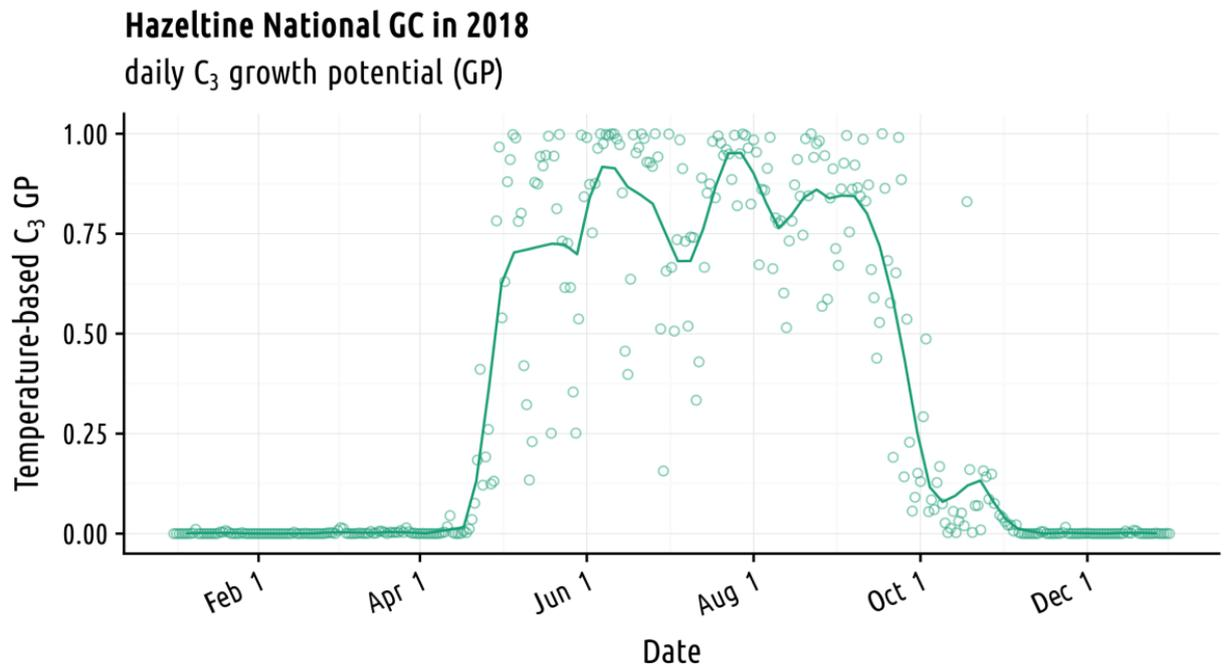

Figure 16: Temperature data for the location of Hazeltine National Golf Club in 2018, converted to temperature-based growth potential.
Those temperatures are something real. I then transform them to something that isn't real, but is useful. That is the temperature-based growth potential (GP) of PACE Turf¹³. The GP is useful in a lot of ways; in Figure 16 it is shown as a visual representation of the growing season for cool-season turf at that location in 2018.